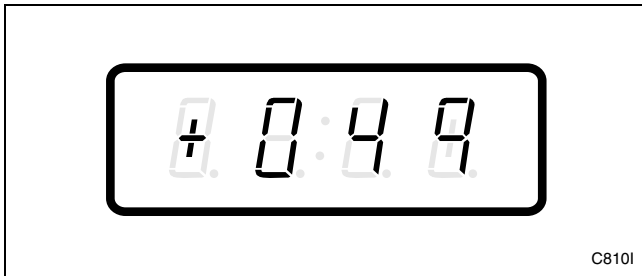

Figure 178
3. Press the DELICATES (+) or the COLD (-) keypad to scroll through the programmable options until “+049” appears in the VFD. Refer to *Figure 178*.